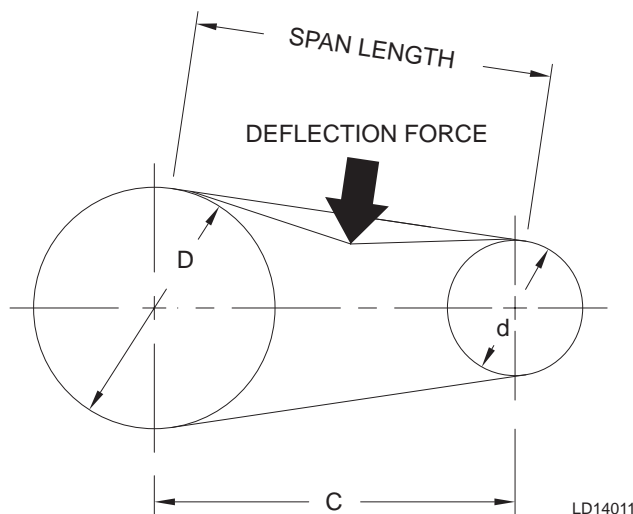

FIGURE 14 - BELT TENSION
See Figure 14 on page 27
4. Using a spring scale, apply force at right angle to the midpoint of the belt span (see Figure 14 on page 27).